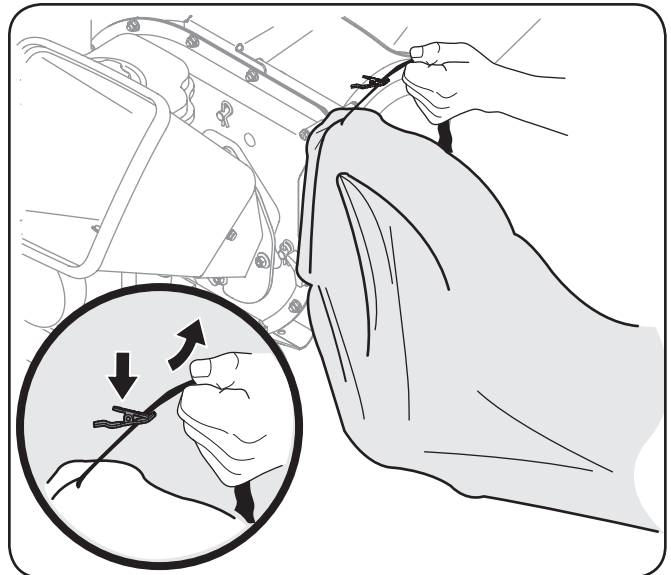

Figure 3-7
- Place the opening of the bag completely over the chute deflector. See Figure 3-7.
- Clip drawstring back on itself, tight against chute deflector to secure into position. See the inset of Figure 3-7.